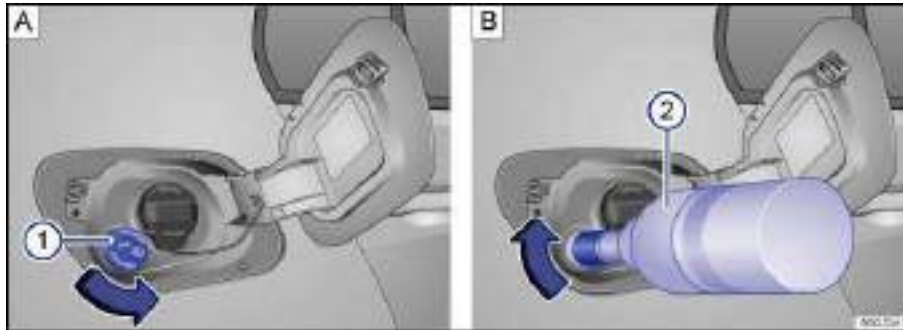

Fig. 164 AdBlue tank with filler neck cap 1 and refill bottle 2.
- Unscrew the AdBlue tank filler neck cap ⇒ fig. 164 (1) counterclockwise and remove.